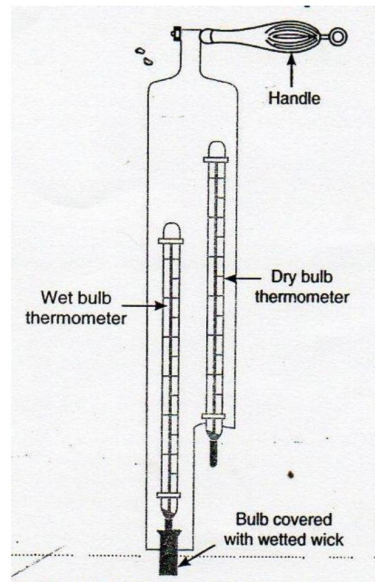

Fig.2, Sling psychrometer
13. **Psychrometer.** There are many types of psychrometers, but the sling psychrometer, as shown in Fig.2, is widely used. It consists of a dry bulb thermometer and a wet bulb thermometer mounted side by side in a protective case that is attached to a handle by a swivel connection so that the case can be easily rotated. The dry bulb thermometer is directly exposed to air and measures the actual temperature of the air. The bulb of the wet bulb thermometer is covered by a wick thoroughly wetted by distilled water. The temperature measured by this wick covered bulb of a thermometer is the temperature of liquid water in the wick and is called wet bulb temperature.